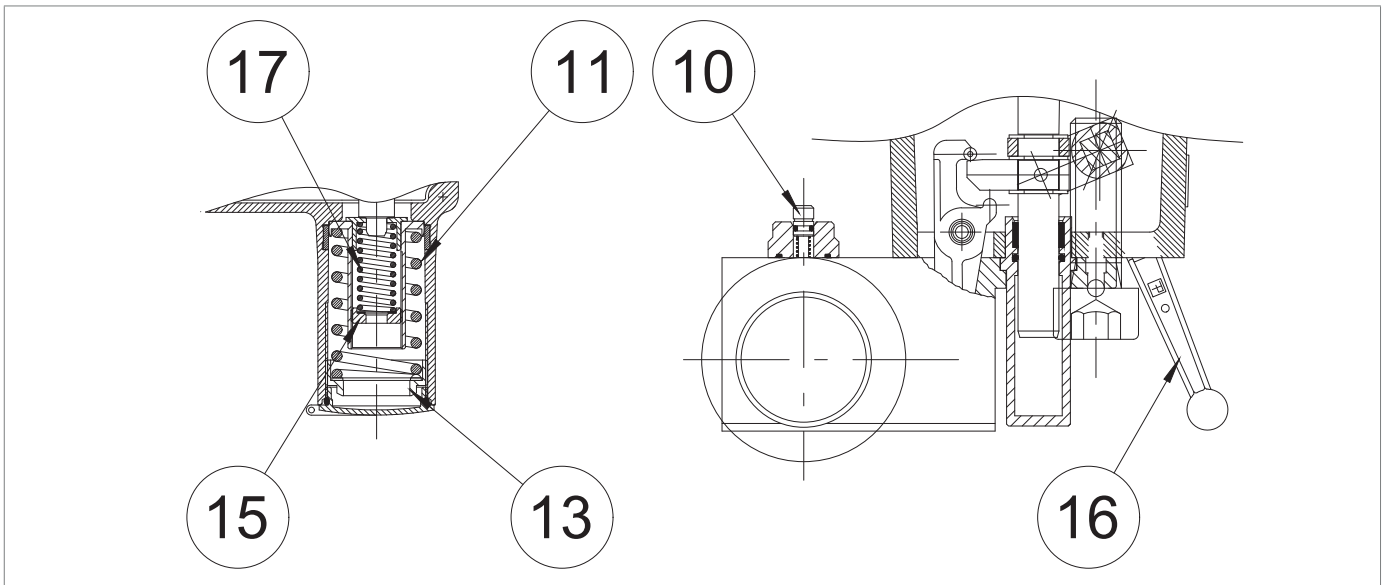

Fig. 8.38. Pressure switches models 102M/102MH - 105M/105MH
2	<p>Check that the slam-shut valve is in the shut-off position.</p> <p>! NOTICE!</p> <p>If the slam-shut valve is in the open position, close it using the manual button (Fig. 8.38, ref. 10).</p>